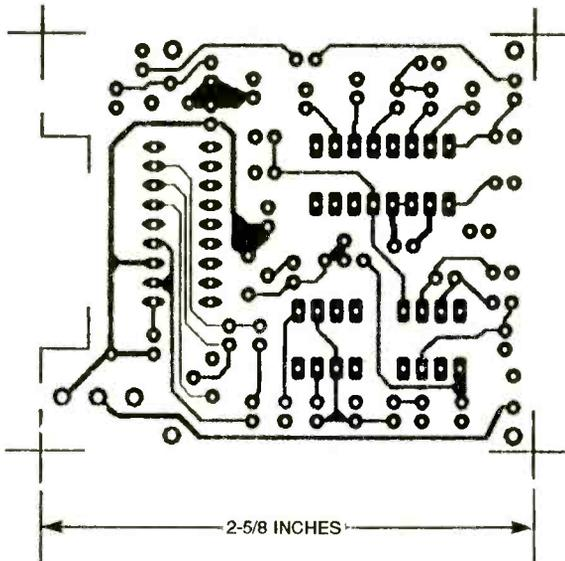

Fig. 2. This is the full-size foil pattern for the solder side of the double-sided PC board.
**Construction.** The author's prototype for the Sound-Level Meter was built on a double-sided printed-circuit board. Building the Meter on a PC board with a good ground is strongly recommended because the NE614 is a high-frequency IC. If you would like to make your own PC board, you can use the solder- and component-side templates shown in Figs. 2 and 3, respectively. An etched and drilled board is also available from the source mentioned in the Parts List.